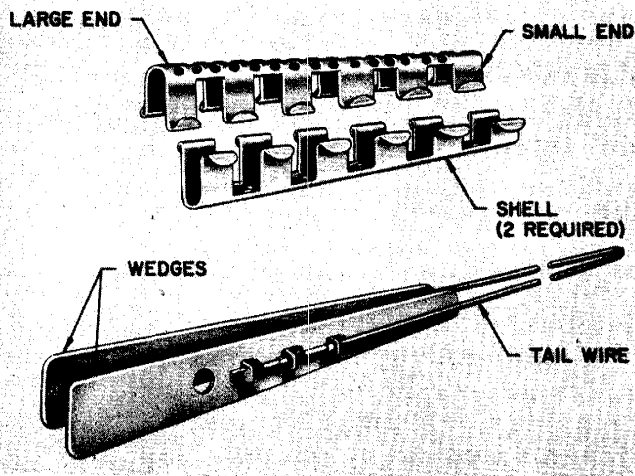

Fig. 2 — D Drop Wire Clamp
**6.01** The D clamp is designed primarily for use on multiple drop wire. It consists of two identical semicircular shells and two flat wedges held together by a tail wire. The clamp is illustrated in Fig. 2.